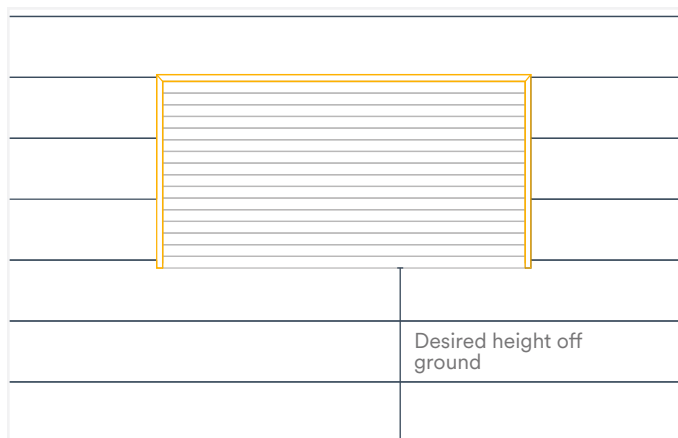
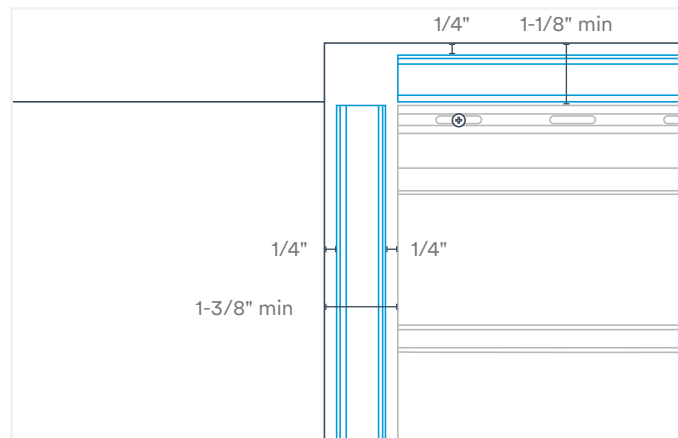

Fig. 15
Fig. 16
1. Refer to the image below for the recommended installation layout (Fig. 15) and appropriate spacing measurements (Fig. 16). It is critical to leave adequate spacing between Wall&CeilingBoard panels and the SlatWall panel area for the H Channel Snap-In Trim which will serve as the transition trim between the two products. Suggested spacing is the same for both horizontal and vertical Trusscore Wall&CeilingBoard installation orientations.